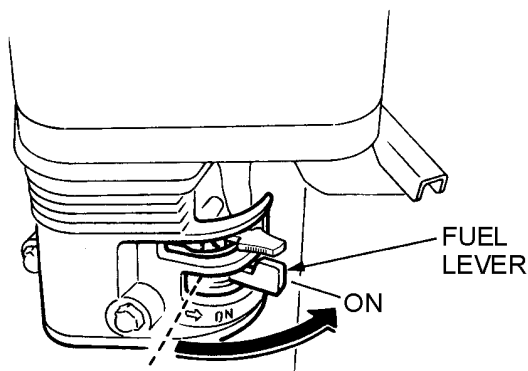

Figure 6. Engine Fuel Valve Lever (ON Position)
1. Place the engine fuel valve lever (See Figure 6) to the "ON" position.